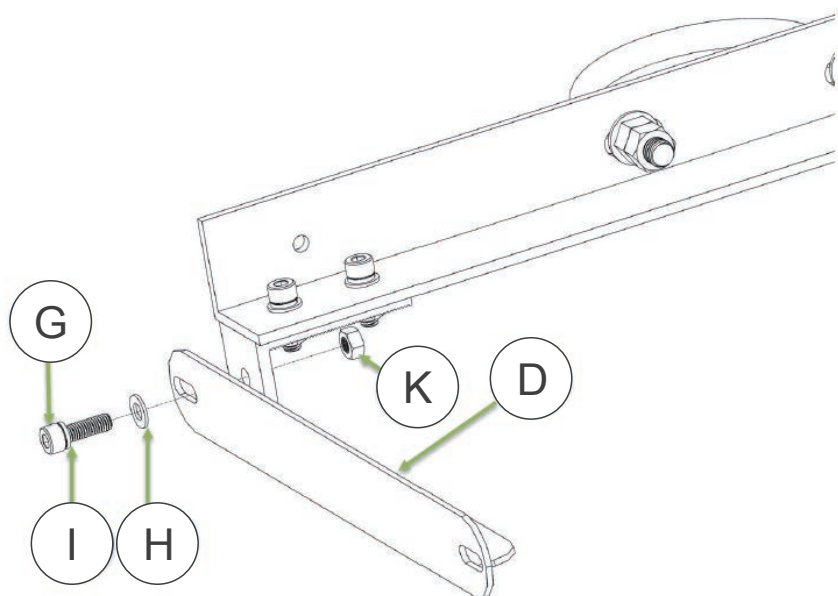

Figure 3
- A. Flush Support Arm (D) to L-Bracket (C) and align the holes.
- B. Place washer on Support Arm (D) surface and align holes.
- C. Feed a Cap Head Bolt (G) through Support Arm (D), and the L-Bracket (C).
- D. Fasten it with small Nuts (K).
- E The orientation should be close to Figure 3